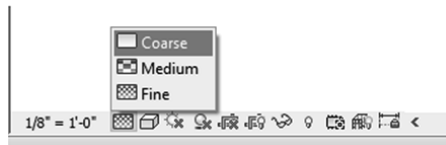

FIGURE 2.17: Sometimes setting the graphic display to Coarse can make the placement of other walls easier.
4. On the View toolbar, set the detail level to Coarse, as shown in Figure 2.17.